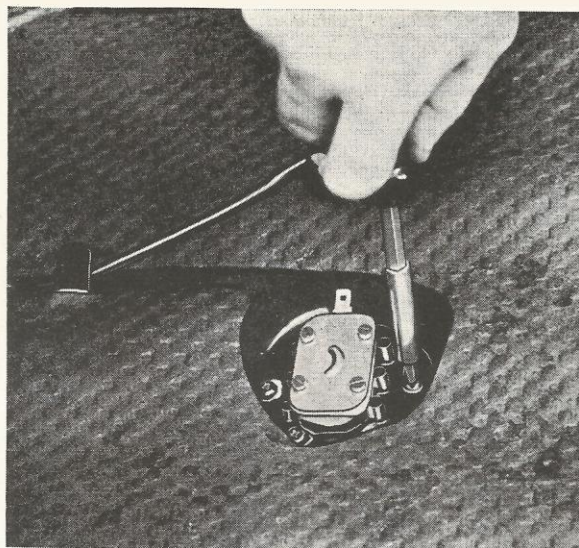

Fig. 14. Fitting the tank fitting.
2. Place the gasket in position on the tank. Place the tank fitting in position, see Fig. 14, and tighten the screws well. Connect the lead.